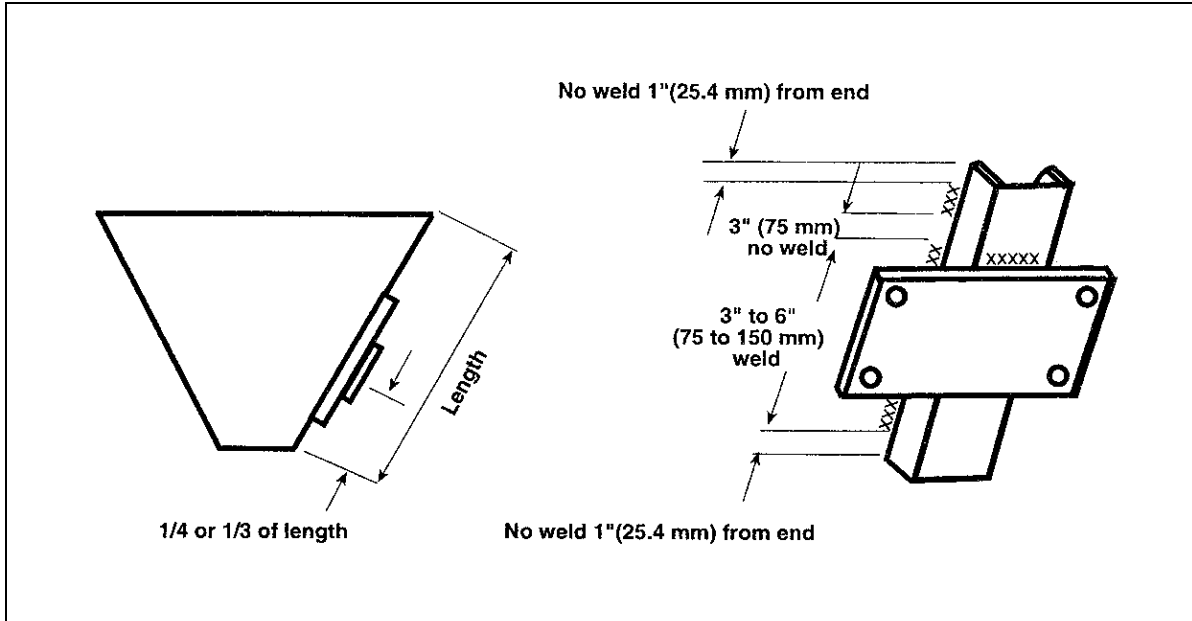

FIGURE 2
4. Weld the mounting plate to the center of the channel iron. Refer to Figure 2, page 8.
5. Weld the channel iron to the bin. Refer to Figure 2, page 8.
CAUTION: Never mount the vibrator directly to the bin wall. It must be mounted to a plate or channel iron welded to the bin wall. Refer to Figure 2, page 8.
Weld the mounting plate to the center of the channel iron. Do not weld the ends of the channel. The heat concentration could cause crystallization of the metal, resulting in fatigue cracks. Tack weld the channel iron in place, then weld intermittently, 3-to-6-inch (76 to 152 mm) welds with 3 inch (76 mm) spaces between the welds. Refer to **Figure 2**.